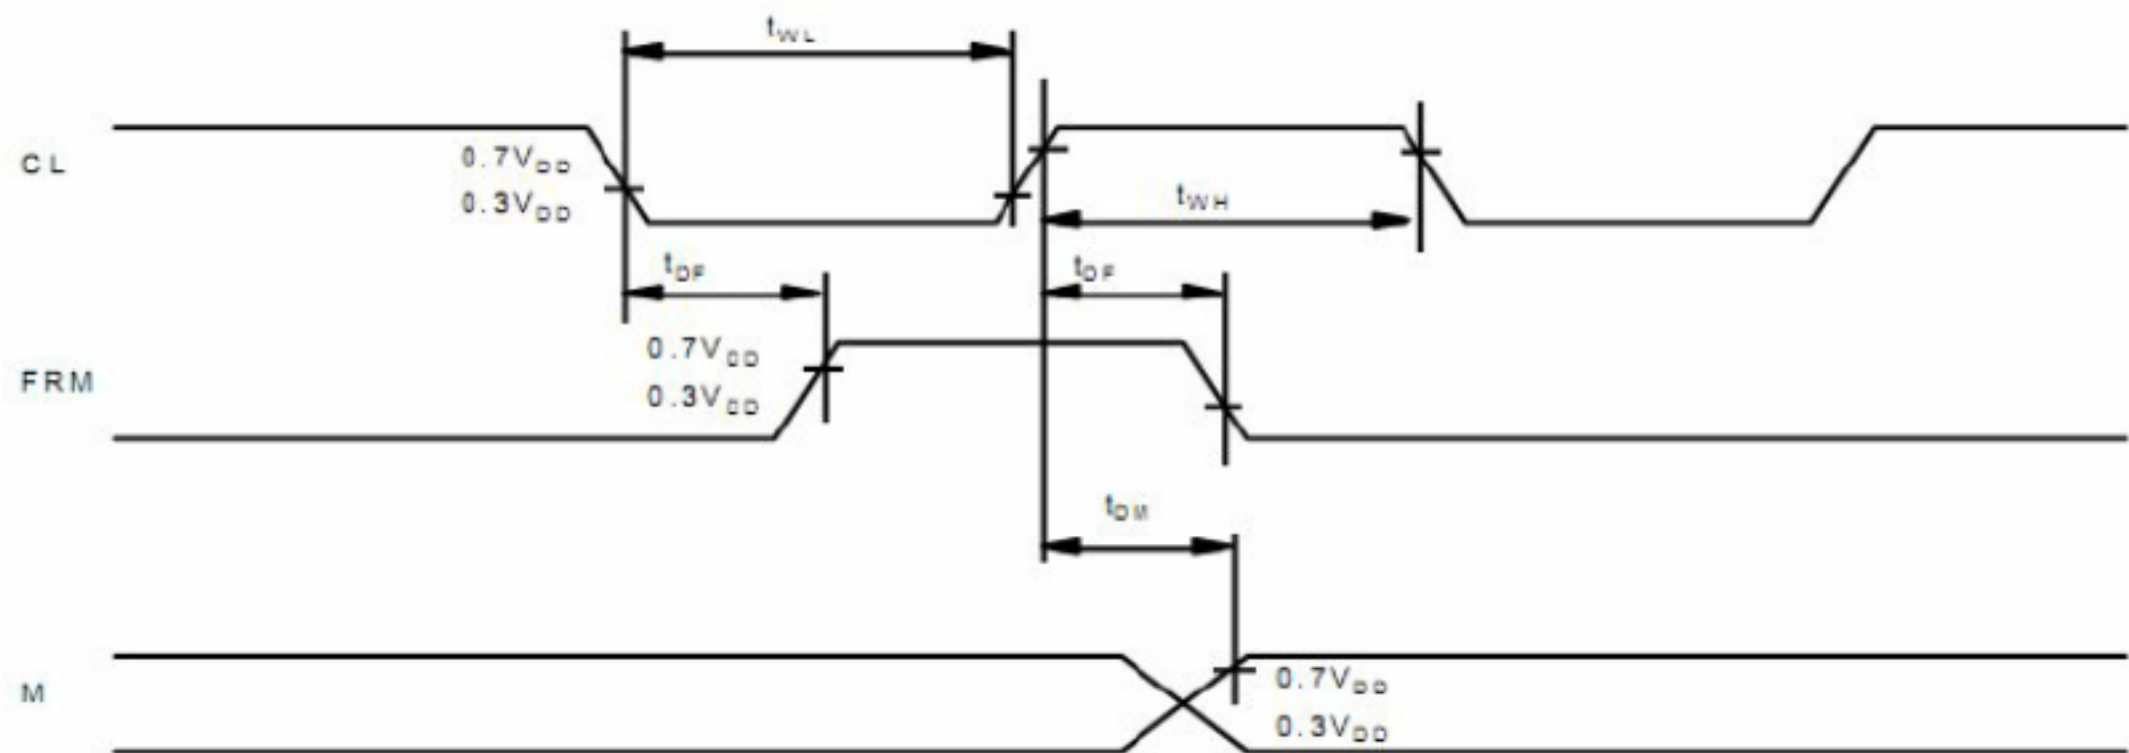

Fig 2. Display control signal waveform
(3). Definition of area . (Fig. 2)